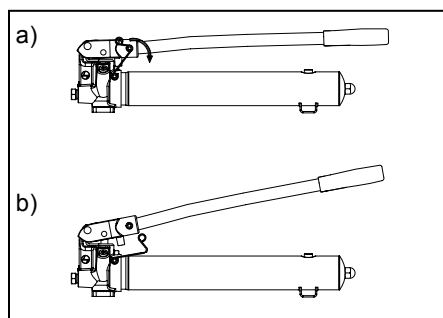

Figure 7 - Push the handle lock latch to unlock the pump handle.
- Push the handle lock latch to unlock the pump handle (Fig. 7).